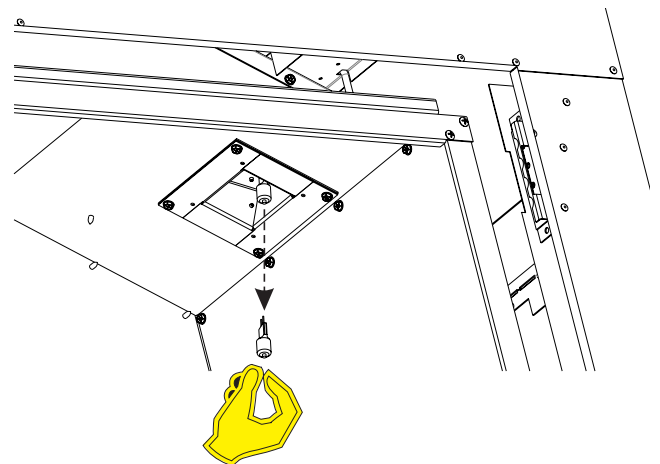

Figure 93
2. Remove old light bulb and replace with a new one. **See Figure 93.**